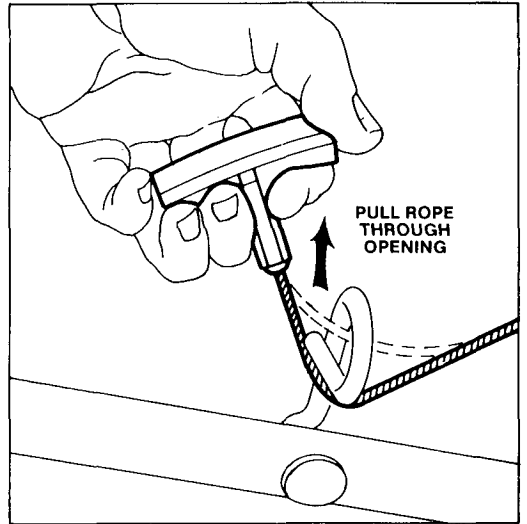

Figure 3
3. Pull starter rope through loop opening on handle (Fig. 3). By squeezing control bar on handle, blade brake will release and allow rope to be pulled up easily to loop.